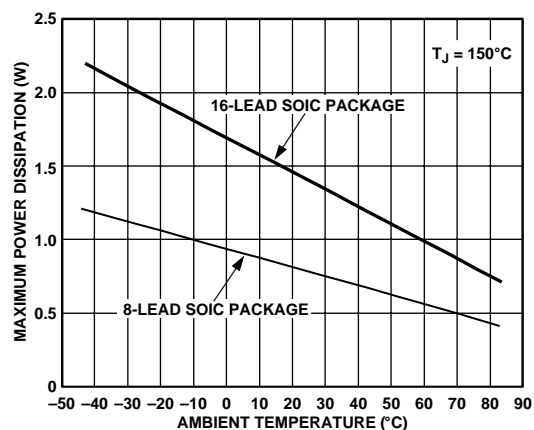

Figure 6. Maximum Power Dissipation vs. Temperature
| Internal Power Dissipation 1Small Outline (R) | See Figure 6    |
| Output Short-Circuit Duration                                | See Figure 6    |